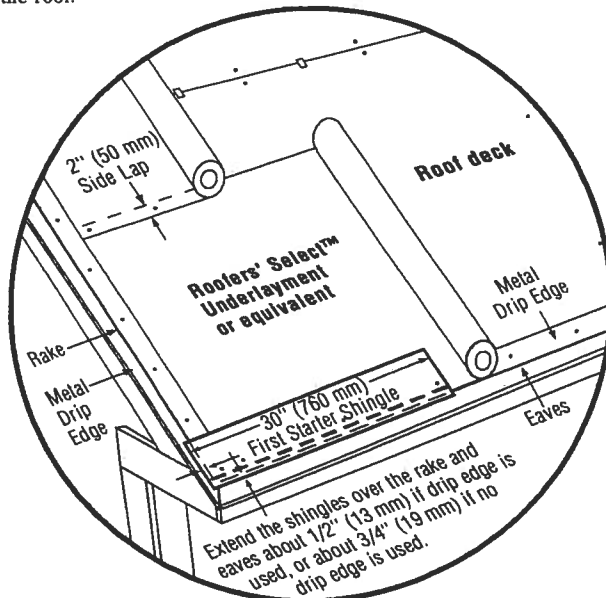

Figure 12-7: Standard slope underlayment and starter drip edge details.
3. Continue with full-length starter course shingles along the eaves (Figure 12-7).
2. Cut 5" off the length of the first starter strip and apply the resulting 31" piece at the lower left corner of the roof. This starter strip should overhang the rakes and eaves 1/2" when drip edge is used, or 3/4" when no drip edge is used (Figure 12-7).